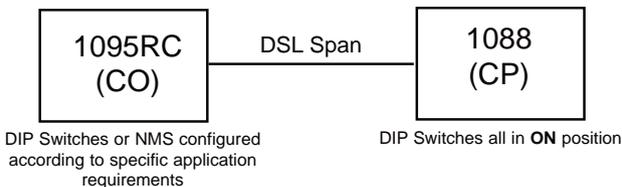

Figure 3. Typical NetLink Plug-and-Play Application
1. Set the Model 1095RC (CO) to either Internal or External clocking mode as defined by the application.
2. Set the Model 1088 (CP) to "NetLink Plug-and-Play CP" by setting all S2 and S3 DIP switches in the ON position as described in Figure 3.